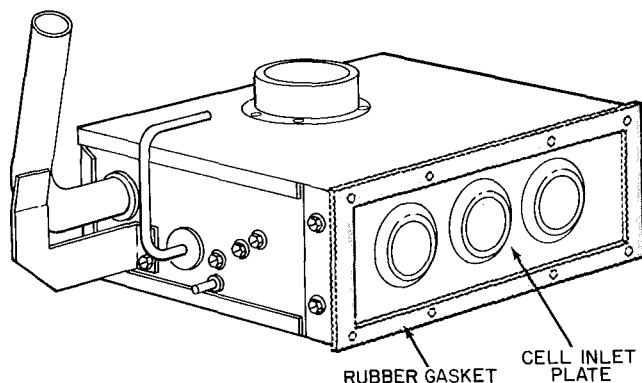

Fig. 11—Burner Closure
12. Check condition of gasket on cell inlet panel of burner enclosure. Replace gasket if necessary. See Fig. 11.